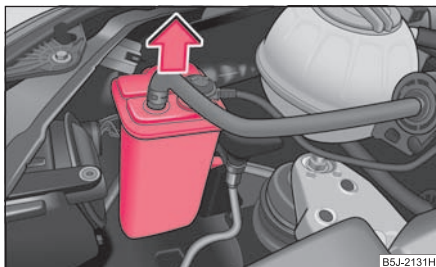

Fig. 213 Removing the activated charcoal filter system
- For a vehicle with petrol engine remove the activated charcoal filter system before replacing the bulb in the right front headlight ⇒ fig. 213.